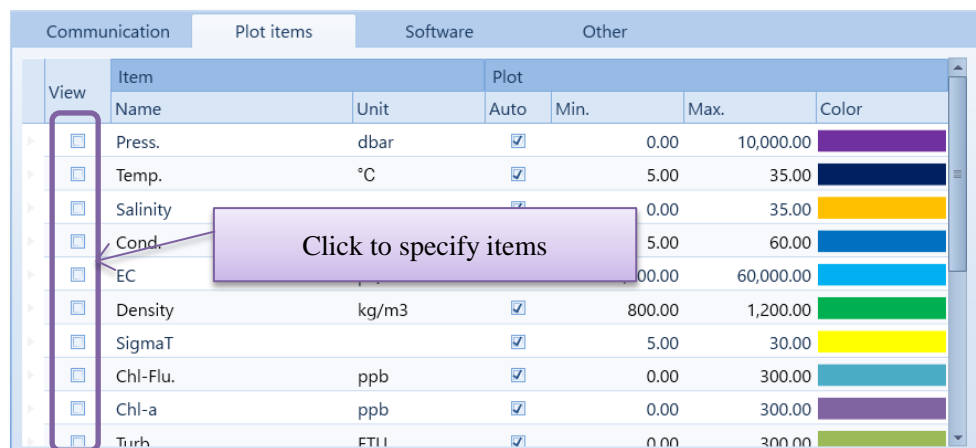

Figure 4.4 Choosing items to display
- (3) Choose [Plot items] tab and click on the boxes next to the items you wish to display. (Figure 4.4)